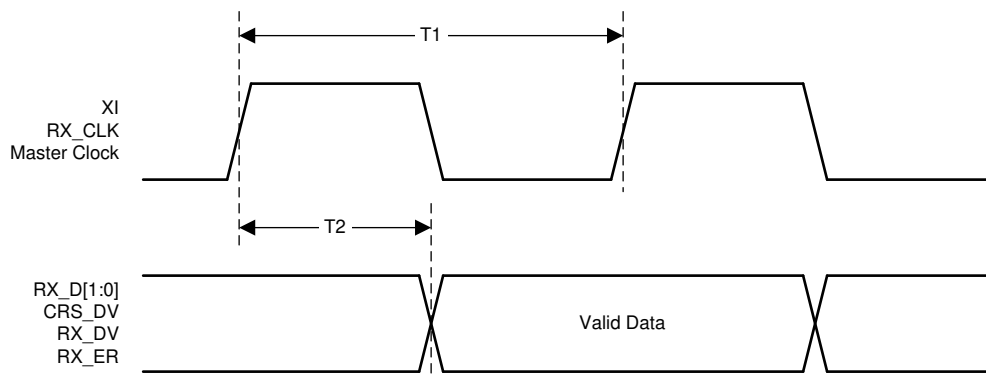

图 7-10. RMII Receive Timing
(1) Ensured by production test, characterization or design.
(2) See 图 7-10.